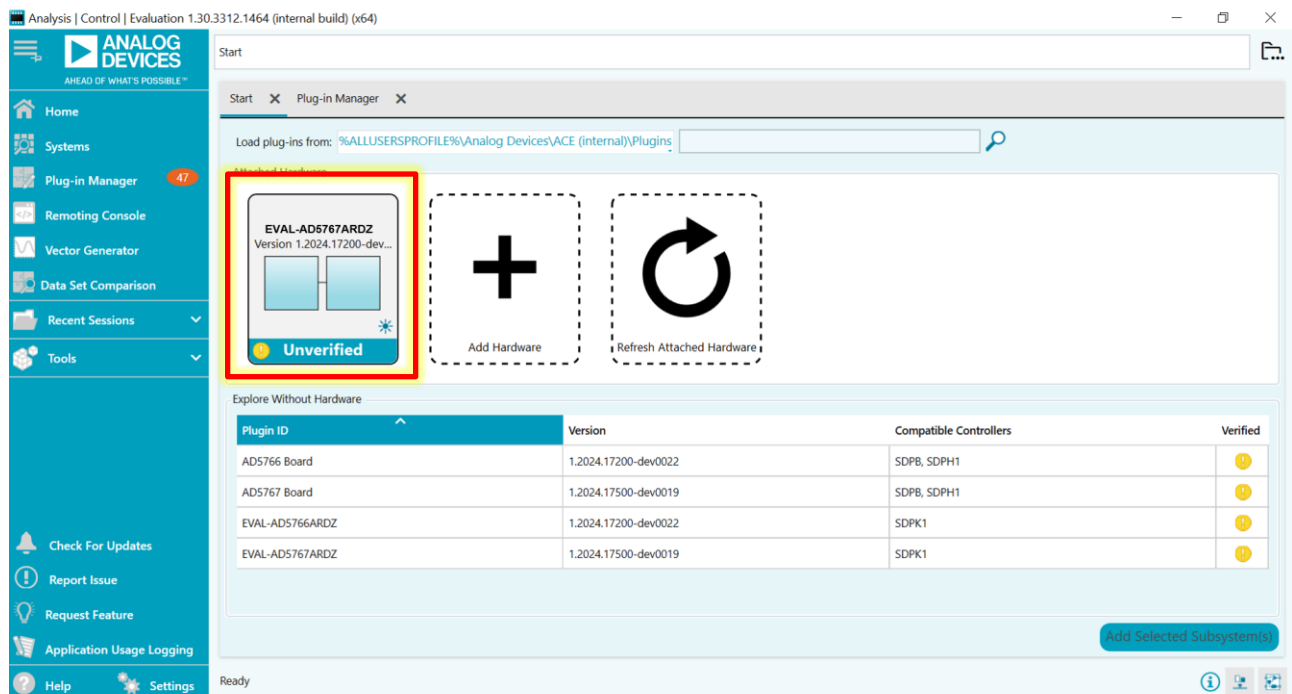

Figure 16 ACE Software's Homepage
1. Open the ACE Software. EVAL-AD5767ARDZ will show up as an Attached Hardware, shown in Figure 16. Double-click on the EVAL-AD5767ARDZ image.